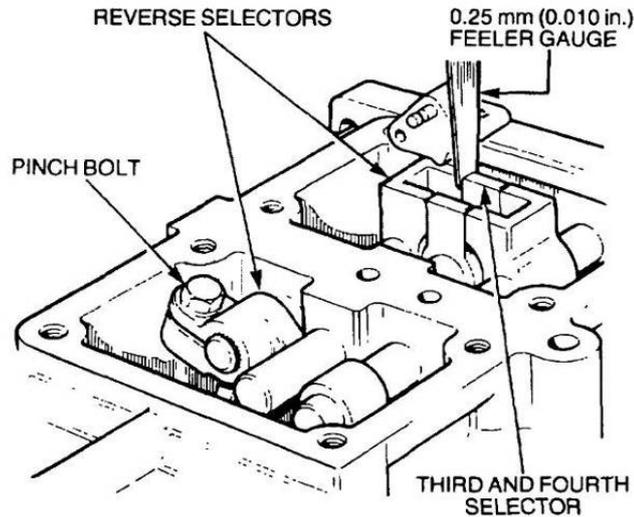

Figure 201 Adjustment of the Reverse Selectors
- ggg. Move the reverse selector shaft forward until the reverse stop hinge assembly is against the transmission casing. Holding the reverse stop hinge assembly in position, move the reverse selector finger forward on the shaft until it is against the casing, and then move it to the rear so it just clears the casing. Insert a 0.25 mm (0.010 in) feeler gauge between the upper edges of the reverse stop hinge assembly and the third and fourth selector (Figure 201).
- hhh. Hold the reverse stop hinge assembly and the third and fourth selectors together to retain the feeler gauge. Rotate the reverse selector finger until it is just touching the third and fourth selector shaft. Tighten the pinch bolt (Figure 201).